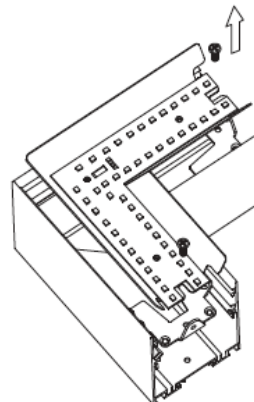

Fig. 11
1. Remove lens and LED reflector strip (see *Surface Mount instructions*). (Fig. 11)